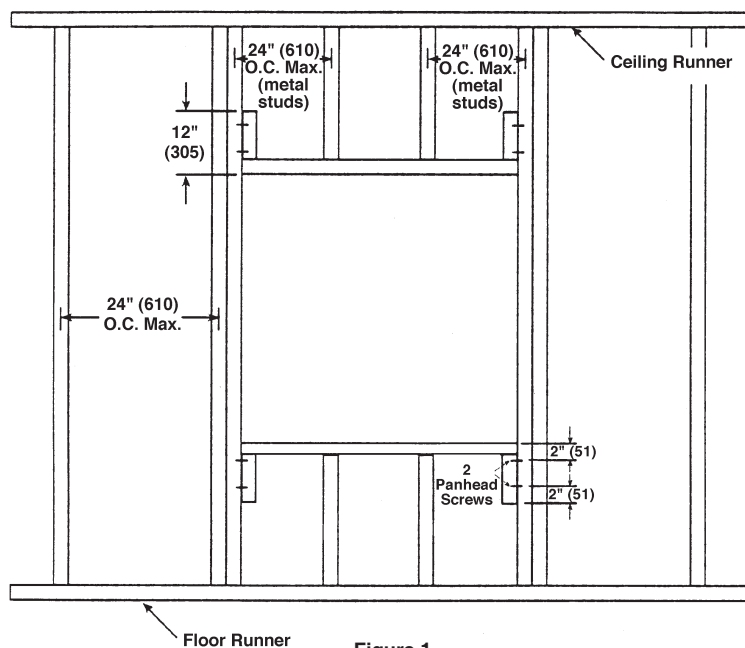

Figure 1
1. Frame wall openings as shown in figure 1 or 2.